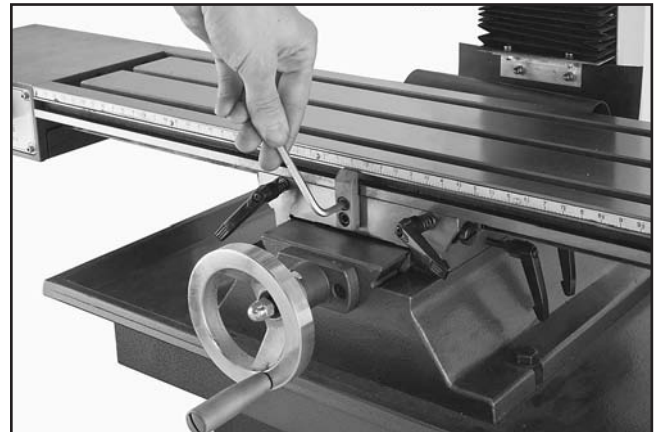

Figure 9. Removing center stop block.
9. Remove the center stop block, by removing two cap screws, as shown in **Figure 9**.